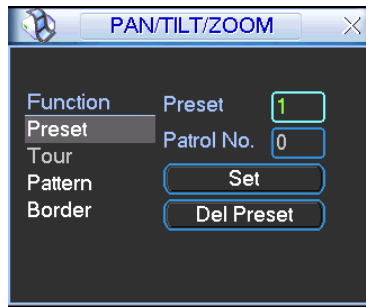
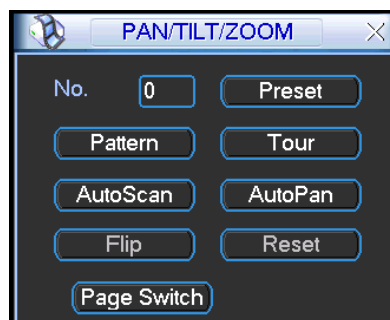
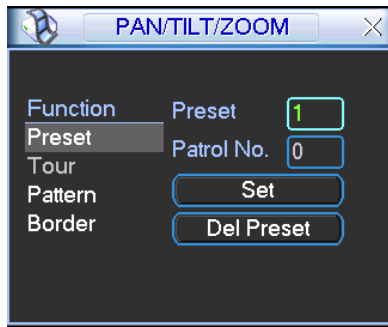
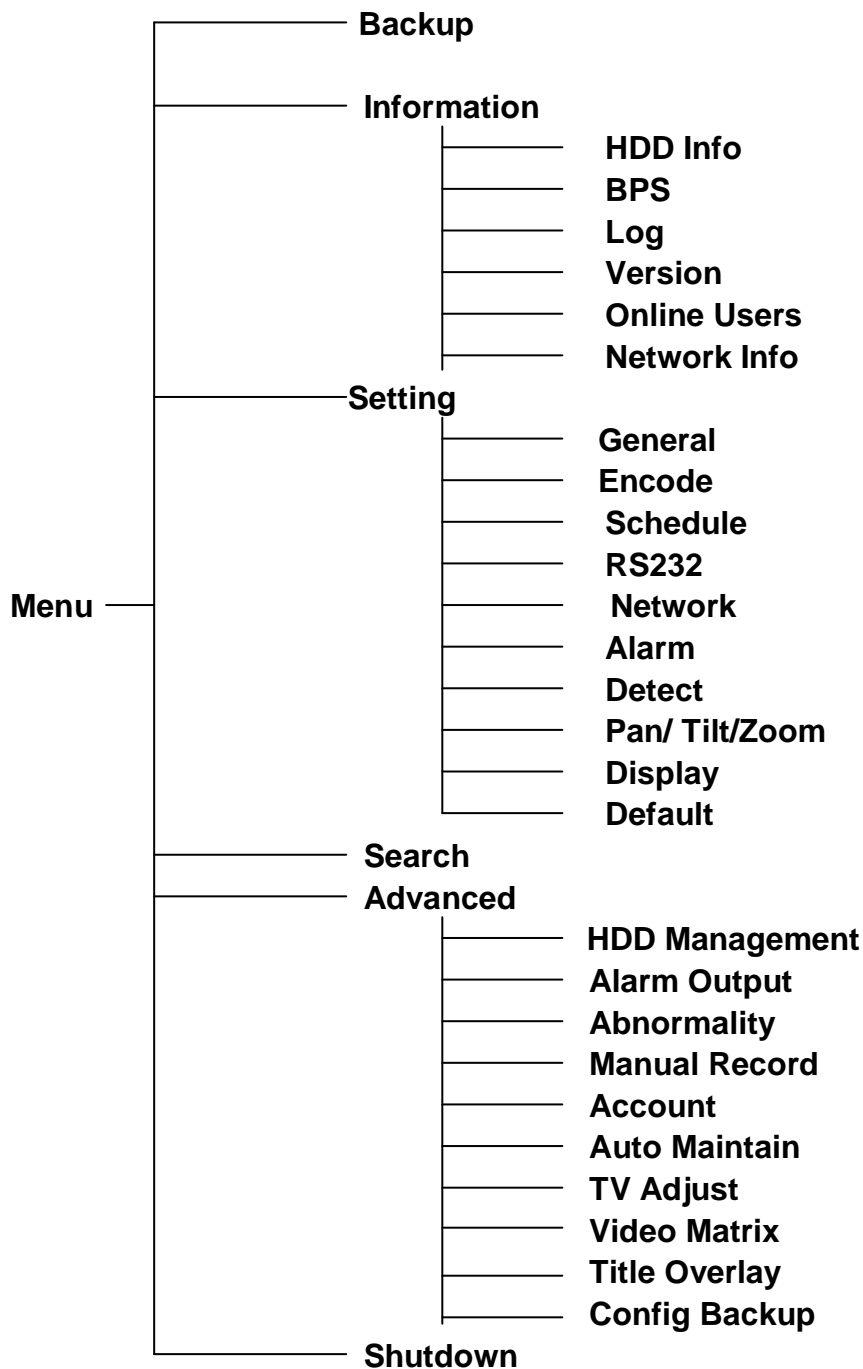

Figure 4-46
Figure 4-47
Figure 4-48
Figure 4-52
In Figure 4-43, please click the “set” button. The interface is shown as below. See Figure 4-46. Here you can set the following items:
In _ Figure 4-43, click page switch button, the interface is shown as in Figure 4-47.
- The following setups are usually operated in the _Figure 4-43, Figure 4-46 and Figure 4-47.
In Figure 4-46, click preset button and input preset number. The interface is shown as in Figure 4-48.
In Figure 4-47, please input preset number in the No. blank, and click preset button.
In Figure 4-46, input patrol (tour) number in the No. blank and click patrol button
In Figure 4-46, click pattern button and then click “begin” button. The interface is shown as in Figure 4-50. Then you can go to Figure 4-43 X to modify zoom, focus, and iris.
In Figure 4-47, click "Auto Scan" button, the system begins auto scan. Correspondingly, the auto scan button becomes Stop button. Click stop button to terminate scan operation.
In Figure 4-47, click page switch button, you can see an interface is shown as below. See Figure 4-52. Here you can set auxiliary function. The aux value has relationship with the Aux button of the decoder.